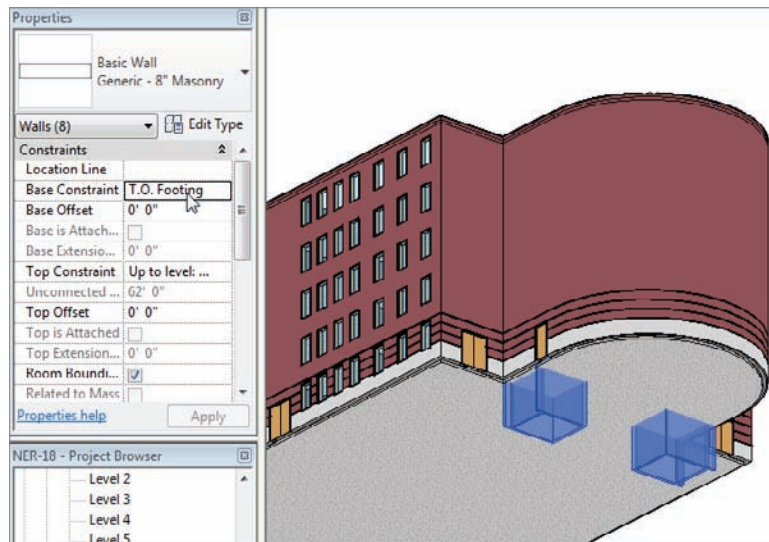

FIGURE 6.53 In the Properties dialog box, change Base Constraint to T.O. Footing.
3. In the Properties dialog box, under the Constraints category, set Base Constraint to T.O. Footing, as shown in Figure 6.53.